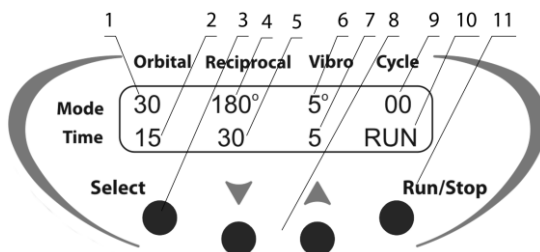

Figure 3. Multi Bio 3D, control panel
- 5.2.4 Press the **Run/Stop** key (fig. 3/11) to start the program.
- 5.2.5 The platform motion begins, and the corresponding indications are shown on the display: operation mode - RUN (fig. 3/10), cycle countdown (fig. 3/9) and the time countdown of current cycle (fig. 3/2, 3/5 or 3/7).
- 5.2.9 If the number of cycles is not set (i.e., cycle number indicator, fig. 3/9 shows zero), pressing the **Run/Stop** key starts continuous operation of the unit until the **Run/Stop** key is pressed again.
- 6.3 Press the **Select** key (fig. 3/3) to choose the parameter to change (the active parameter is blinking).
- 6.4 Use the **▼** and **▲** keys (fig. 3/8) to set the necessary value. Pressing the key down for more than 2 s will make the values change quickly.
- 6.6 Set the speed (fig. 3/1), turning angle (fig. 3/4, fig. 3/6), time for each motion type (fig. 3/2, 3/5 and 3/7) and number of cycle repetitions (fig. 3/9).